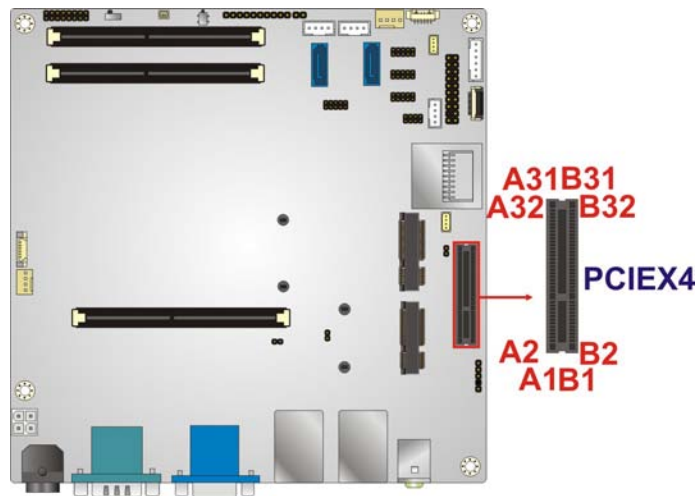

Figure 3-16: PCIe x4 Slot Location
- CN Location:See **Figure 3-16**